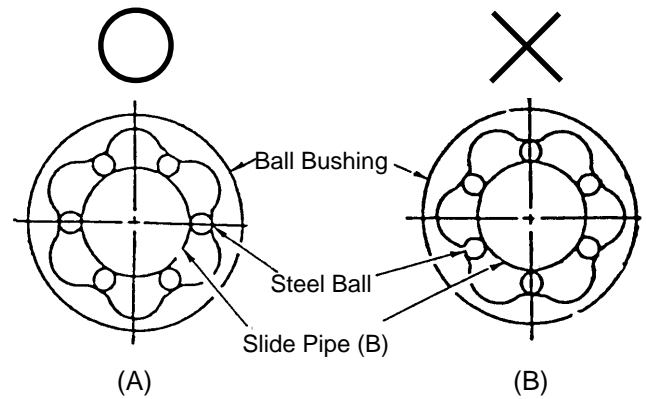

Fig. 6
When assembling the Ball Bushing into Holder (A), insert it so that the steel balls within the Ball Bushing are positioned as illustrated on side (A) in Fig. 6. Visual alignment of the steel balls during assembly is acceptable. As shown in Fig. 6, the load is more evenly distributed when the steel balls are aligned as in side (A). The side (A) alignment is approximately 30 % more efficient than the alignment illustrated in side (B).